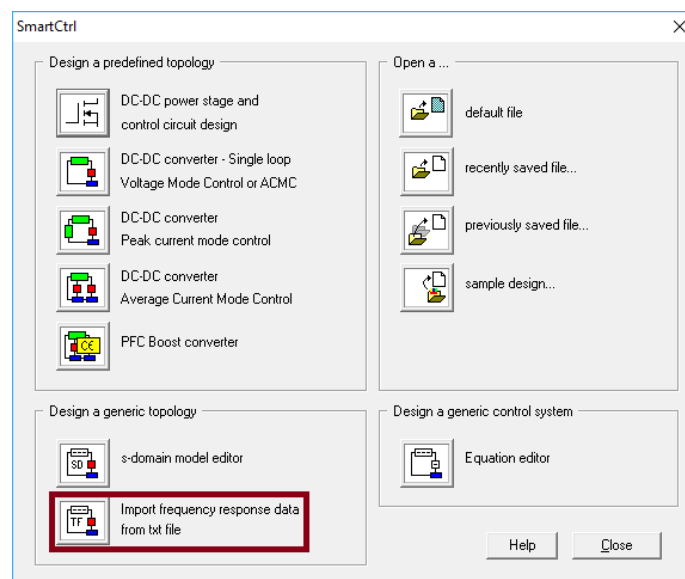

Figure 6: SmartCtrl option to load AC sweep data in txt format
1. Open your SmartCtrl Software and select Import frequency response data from txt file as shown in Figure 6. And select current mode controlled.